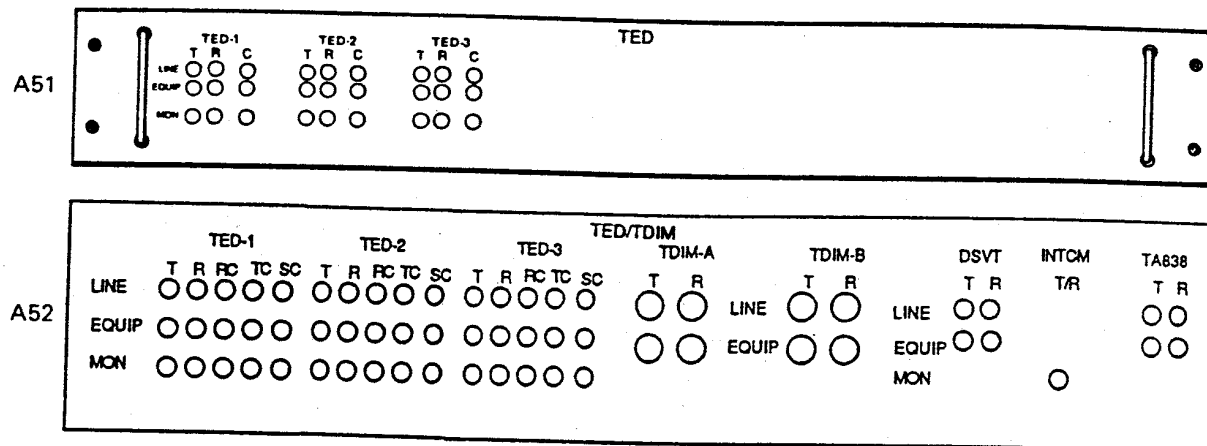

FIGURE 1.
Use Figures 1 through 4 and information sheet contained in this practical exercise to assist you in answering the following.
- A. Figure 1: A51.
- B. Figure 1: A52.